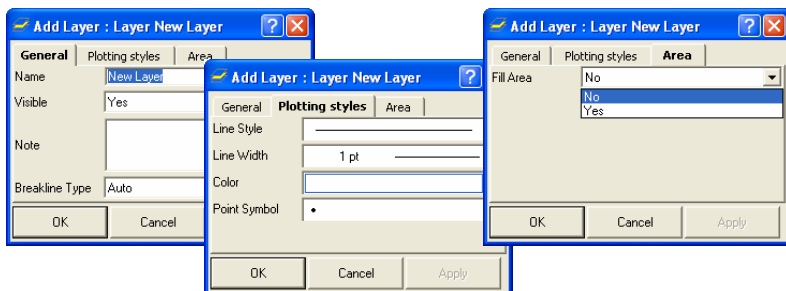

Figure 4-31. Enter and Select Layer's Properties
1. Enter the following general information for the layer in the *General* tab (Figure 4-31):
2. Select the following plotting information for the layer in the *Plotting Styles* tab (Figure 4-31):
3. Select Yes to fill the areas of this layer (Figure 4-31).